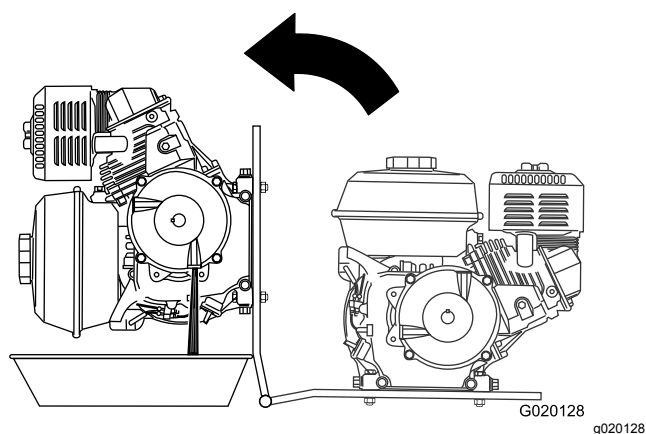

Figure 61
8. Align a drain pan to the hinge of the engine deck (Figure 61).
9. Rotate the engine on the hinge side of the engine deck, and drain the oil from the reduction case (Figure 61).